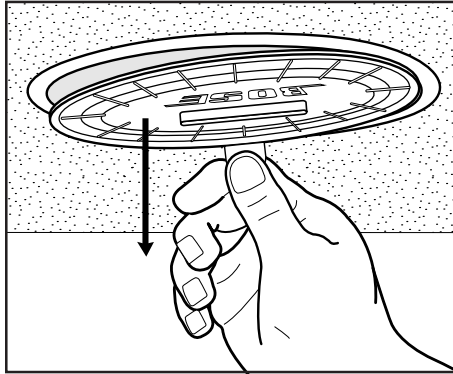

Figure 23
1. Pull down on the tab to remove the paint shield (Figure 23).